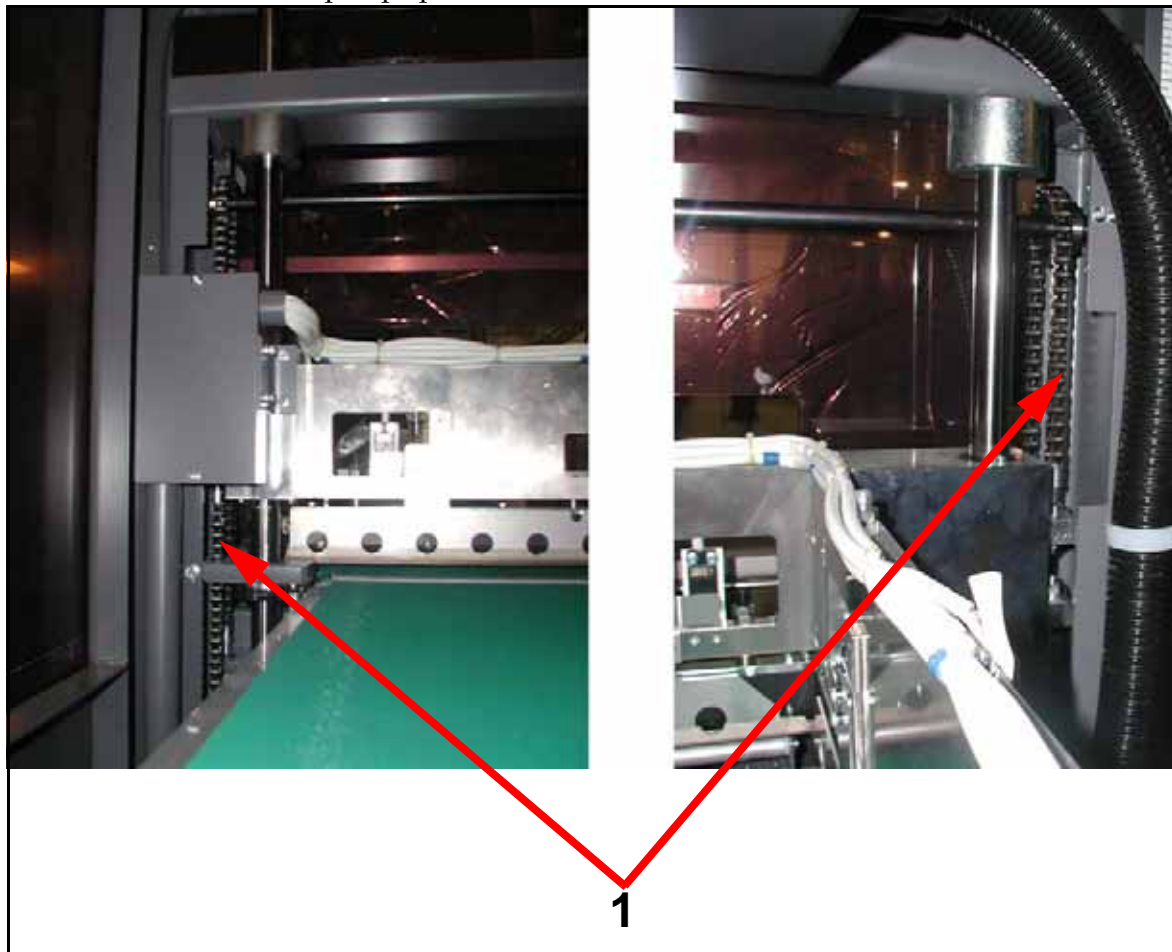

Figure 6-10. Seal Bar Drive Chains
- 1 Use a small paint brush to apply a thin but thorough coat of oil to each chain (1 in Figure 6-10).